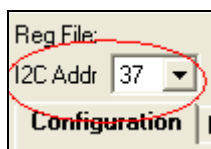

Figure 5 – I²C Address
2. In the SensorEval Software, select the I²C address that matches the address bit selected in step 1. Use table II to set the correct I²C address, which is located on the top left hand corner of the SensorEval Software (figure 5). National recommends selecting I²C address 0x37 if none of the pins on J8 is jumpered.